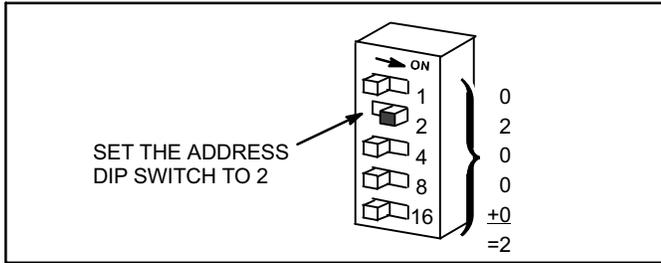

Figure 2. Address DIP Switch
- Change IMC UNIT ADDRESS DIP switch to 2. See figure 2 and 3.